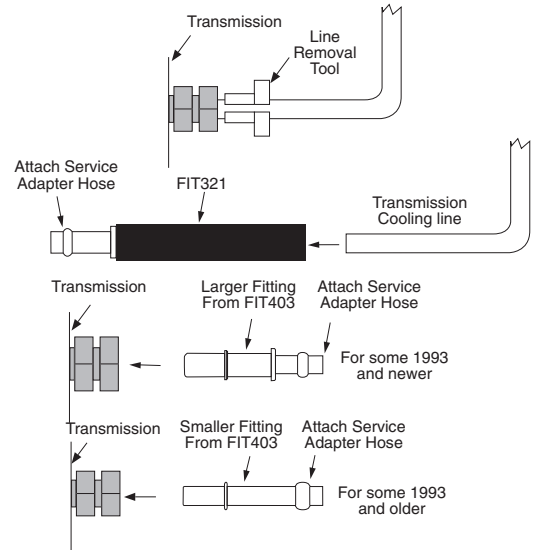

Figure 60. FIT403 Installation on Ford Taurus, Ford Windstar & Mercury Sable
FIT403 must be installed at the transmission in Ford Taurus and Windstar and in the Mercury Sable. For some 1993 and newer vehicles, use the larger diameter fitting in FIT403 (see Figure 60) with FIT321 used as the female side. For some 1993 and older use the smaller diameter fitting in FIT403.
2. Insert the appropriate FIT403 fitting (see Figure 60) into the receptacle and continue pushing until the plastic clip in the receptacle engages the fitting.